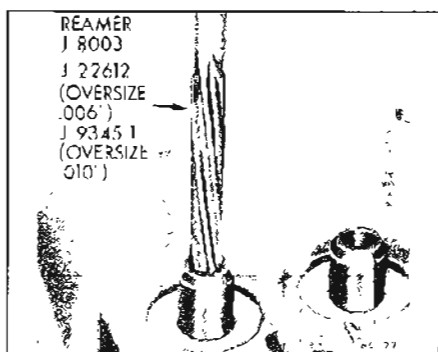

Figure 60-315—Reaming Valve Guide
7. If valve stem has too much clearance in its guide, the guide should be reamed to .006" oversize using J-22612. See Figure 60-315.